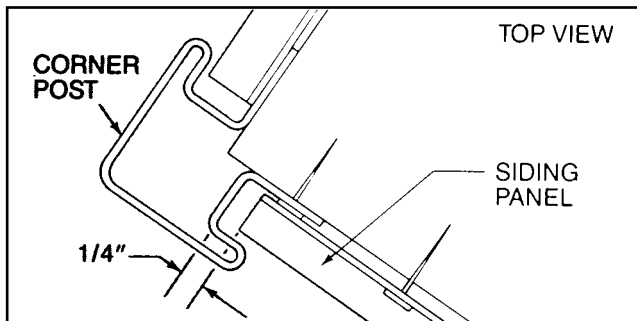

Fig 6.1
1. FIRST PANEL Insert one end of the siding panel into the corner post channel. Leave a 1/4" space between the end of the panel and the inside of the corner post channel for expansion (Fig. 6.1). This is especially important if the distance between the corner post and a door or window is less than 12 feet. Snap the siding panel up into the starter strip making certain it is securely locked before fastening through nailing slots at top of the panel (see nailing instructions, pages 2 and 3). Siding panel should not be subject to tension or compression when nailed, and it should be free to expand and contract laterally with changing temperatures. After installation check panel to insure proper alignment with windows, eaves and adjacent walls.